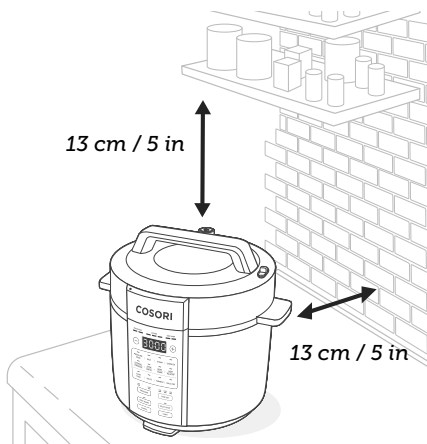

Figure 2.1
**Note:** Leave 13 cm / 5 inches of space above the pressure cooker. [Figure 2.1]